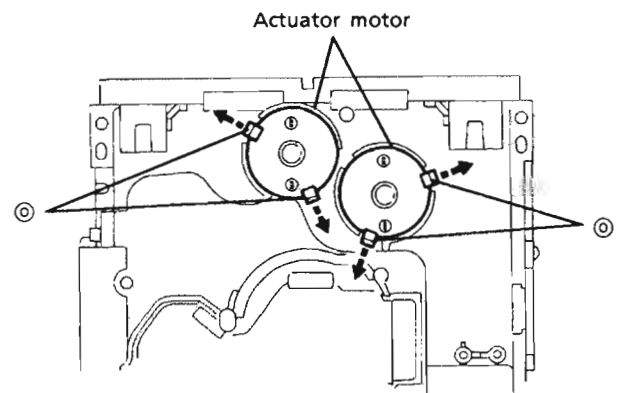

Fig. 46
5. Reverse the chassis ass'y and widen 4 poles ④ which secure both actuator motors to its arrows to remove the actuator motors. (See Fig. 46.)